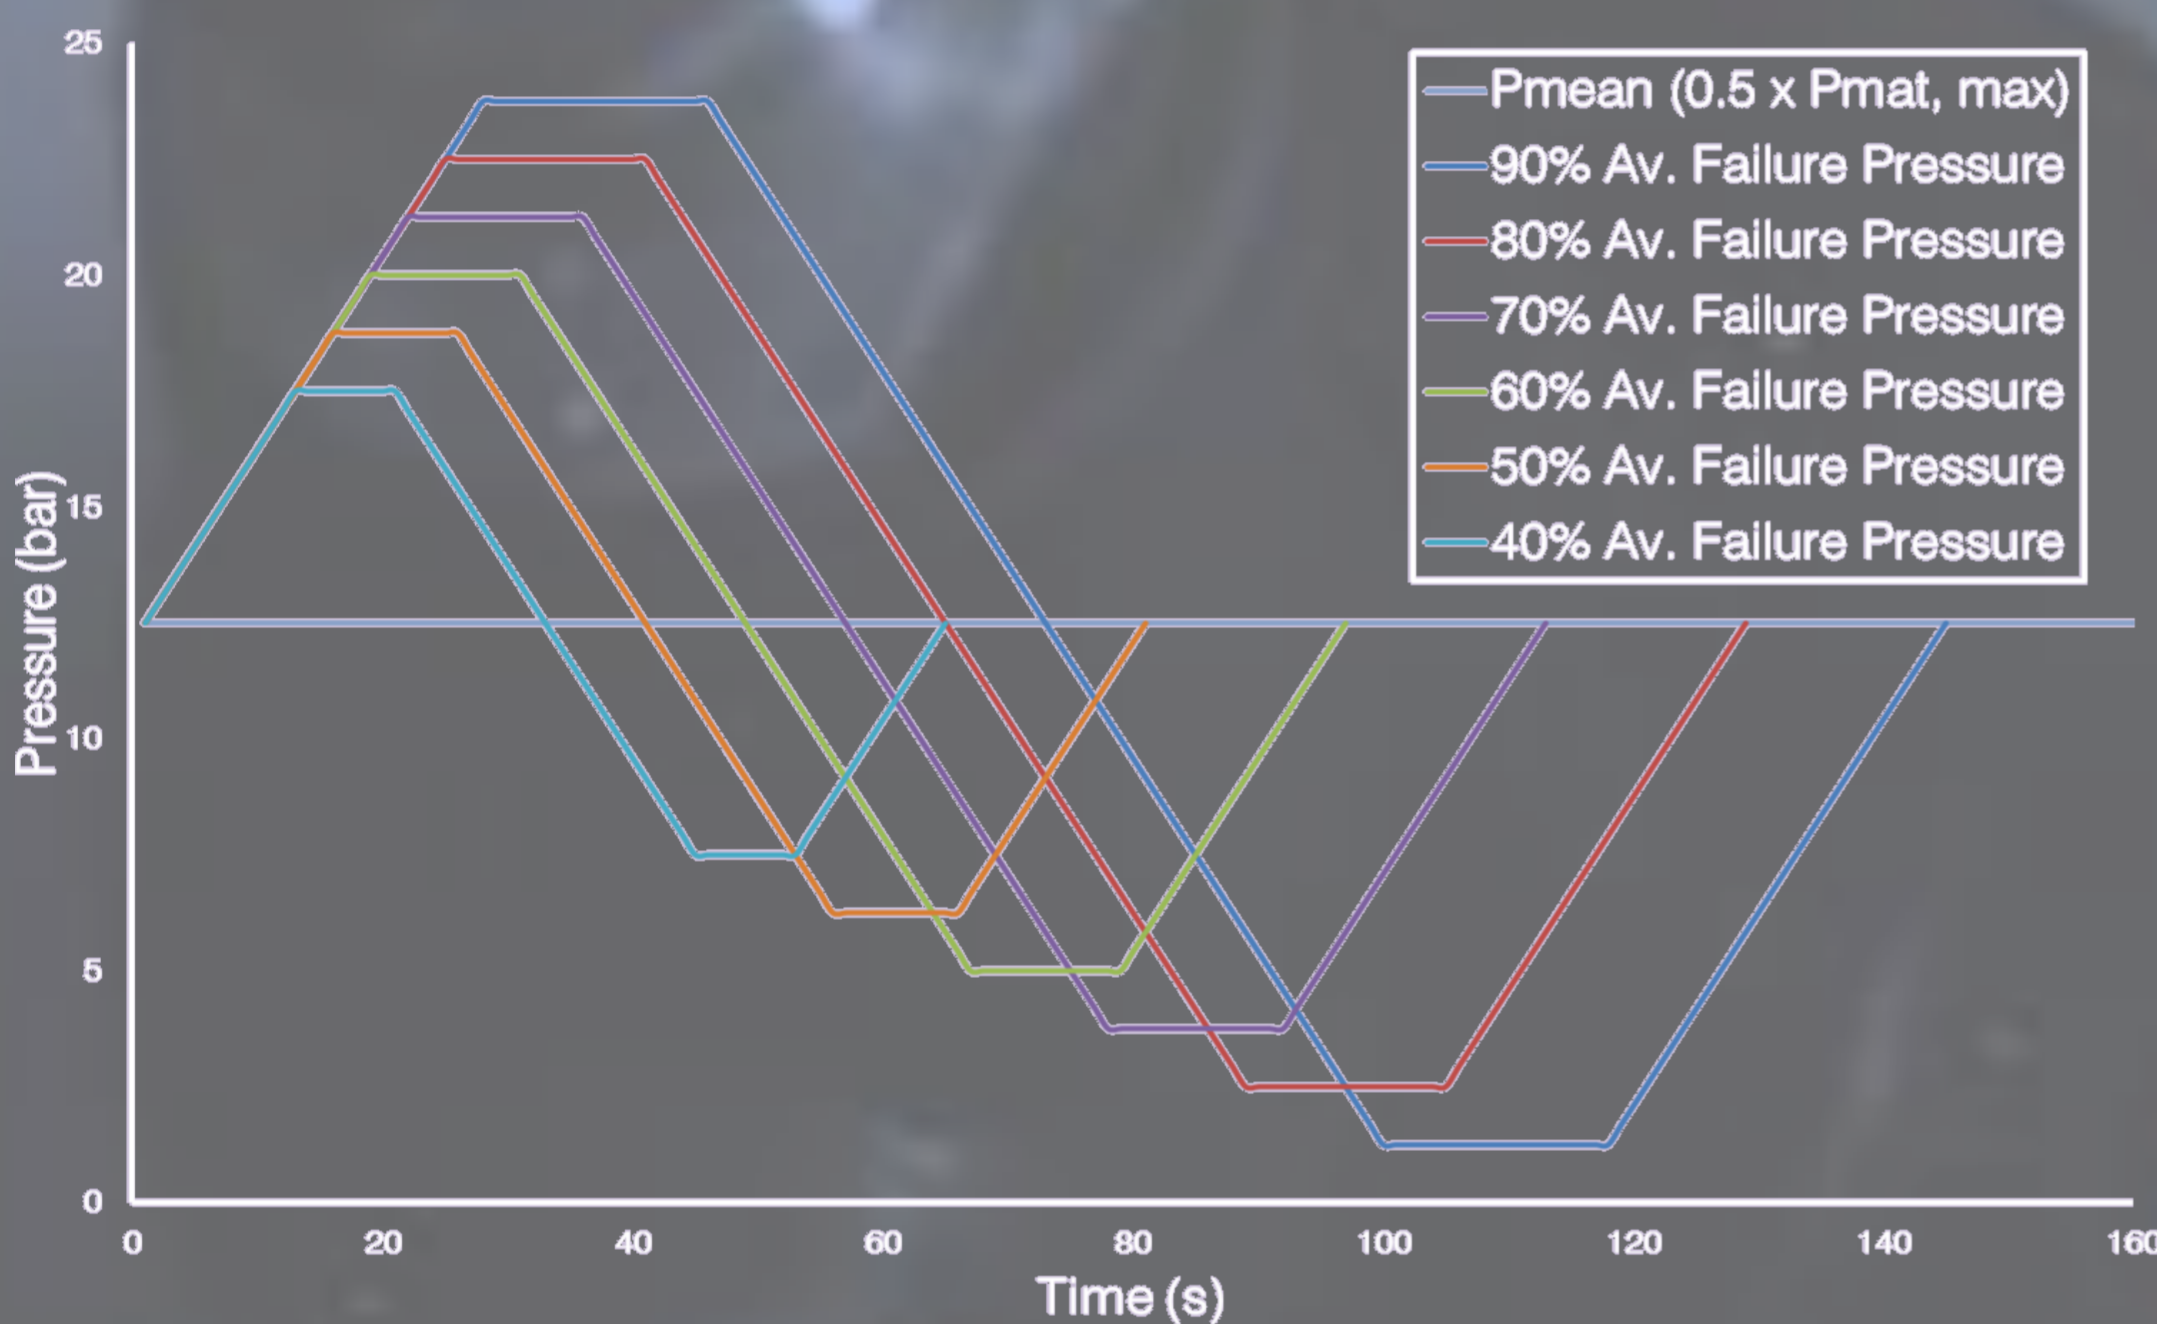

Figure 2. Loading Patterns for fatigue tests.
- Trapezoidal loading patterns were followed (Figure 2) for the fatigue tests